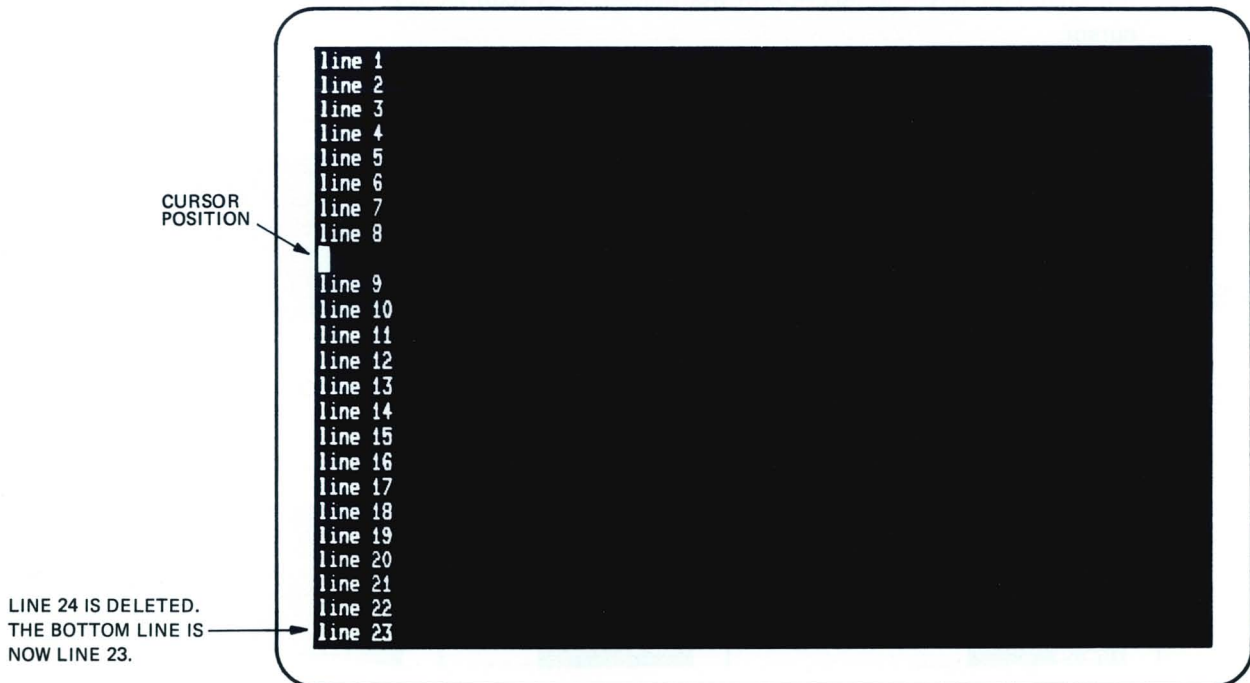

Figure 1-16 Line Added to the Screen
2. Press the **INSERT LINE** key once. The line where the cursor is located and all lines under it, up to either the end of the scrolling region or the first line containing 2 protected field, move down one line. The bottom line moves off the screen and the characters on it are lost (Figure 1-16).